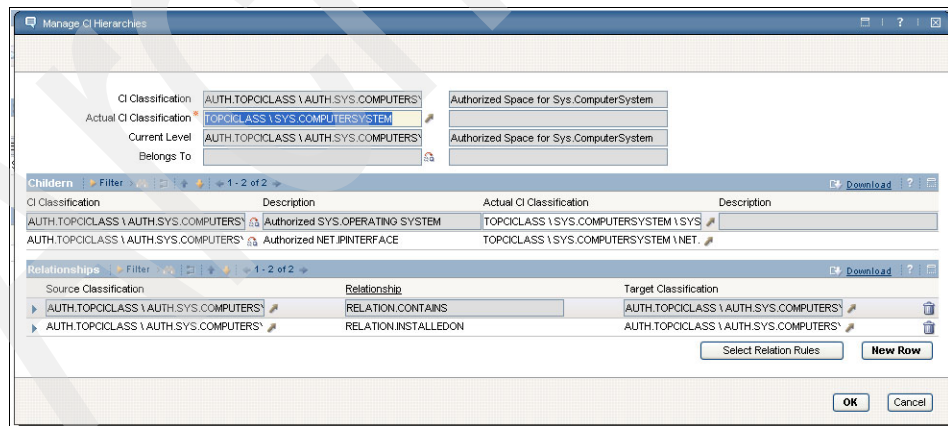

Figure 5-11 Relationships managed in an authorized space
- After mapping the Top-Level Classification and child classes, you should also map the relationships between these classifications. You can use the section named “Relationships” on the same window. If you click the **Select Relations Rules** button, then it would automatically establish the relations based on the relations between actual classifications. But you can also modify/create your own relationships that you would like to manage in your authorized space. To create new relations, click the **New Row** button under the Relationships section. Figure 5-11 shows the relationships that would be managed in an authorized space.